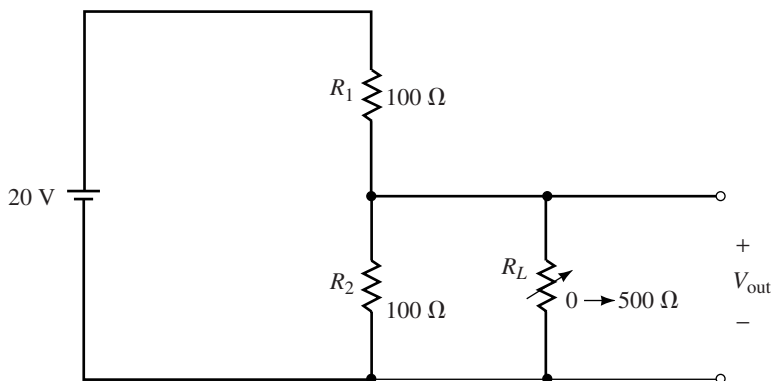

FIGURE 7–72
34. Given the circuit of Figure 7–73, calculate the output voltage V_{out} when $R_L = 0\text{ }\Omega$, $500\text{ }\Omega$, and $1000\text{ }\Omega$.